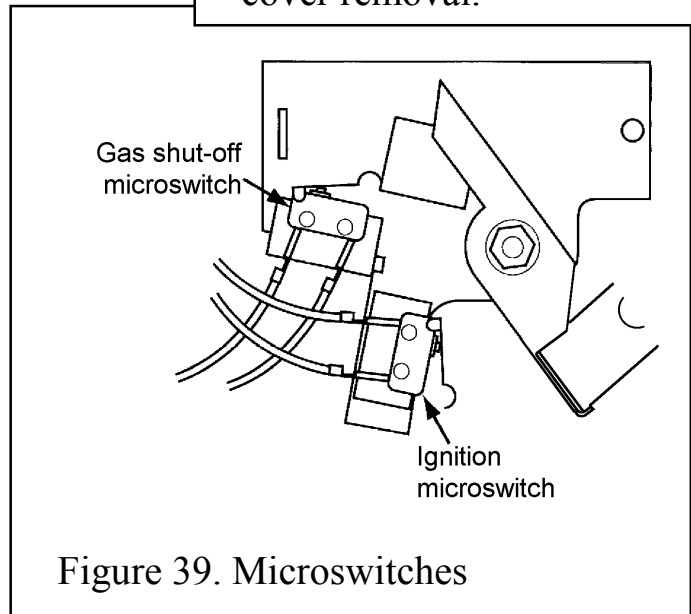

Figure 39. Microswitches
3. Disconnect the leads from the ignition microswitch (The lower of the two microswitches - See figure 39).
4. Detach the microswitch assembly by removing two screws. See figure 39.